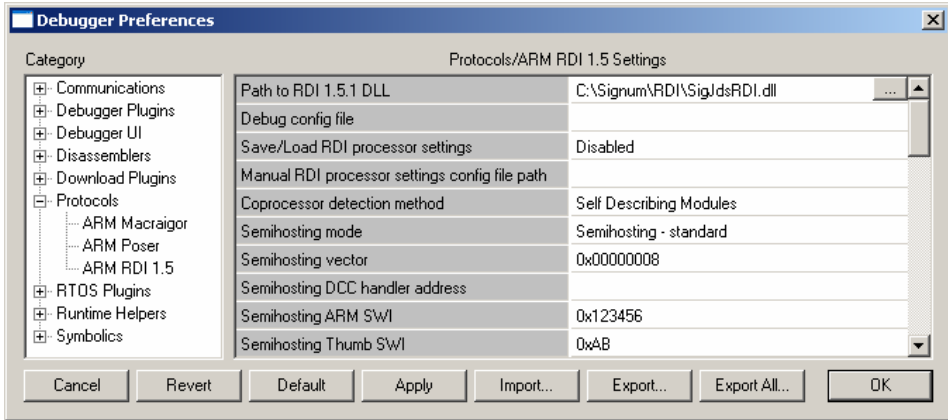

FIGURE 18 Selecting the path to the RDI 1.5 DLL file for the ARM RDI 1.5 protocol.
3. In the Category pane, select ARM RDI 1.5 under the Protocols entry. In the Debugger Plugins/ARM Settings pane, navigate to the SigJdsRDI.dll file to set the Path to RDI DLL entry. In a standard installation, the SigJdsRDI.dll file is located in the C:\Signum\RDI folder. See Figure 18.